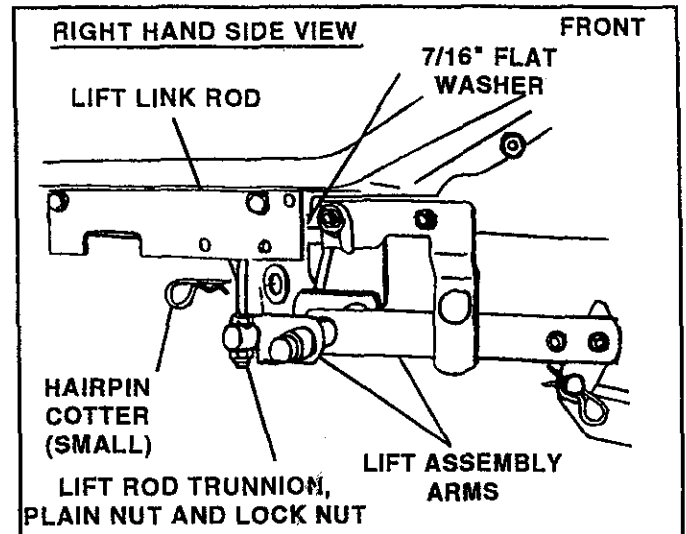

FIGURE 20
20. Assemble trunnions that were assembled to the lift link rods in step 12, through lift assembly arms and secure with 7/16" flat washers and (small) hairpin cotters. Note: Trunnions must be positioned to outside of lift assembly arms. See figure 20.
21. Assemble lift pivot plate over right hand end of lift assembly pivot shaft and connect to outside of frame bracket using two 3/8" x 3/4" clevis pins from inside. Secure with two 3/32" (small) hairpin cotters. Secure ends of pivot shaft to each lift pivot plate with 1/8" (large) hairpin cotter. See figures 20 and 21.